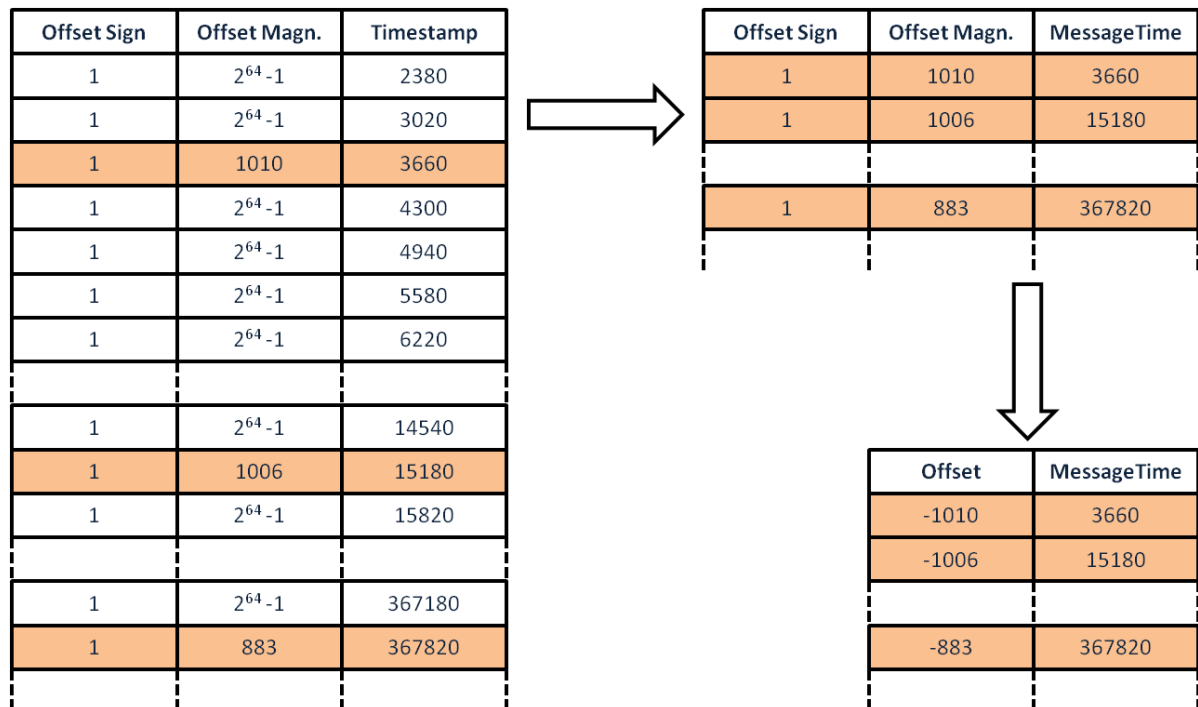

Figure 8-1: Steps 1 - 4
2. Remove invalid offsets11 from the data, leaving only valid offsets, as shown in Figure 8-1:
- b. This step will generate a set of {*message time*, *offset*} pairs, as shown in Figure 8-1.